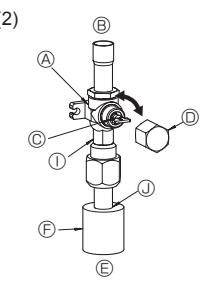
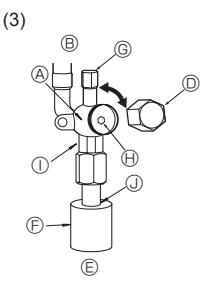

Fig. 4-7
Fig. 4-8
② Make sure that the stop valve is open completely and rotate the cap back to its original position.
(2) Gas side of SW100-200 (Fig. 4-7)
- ① Remove the cap, pull the handle toward you and rotate 1/4 turn in a counter-clockwise direction to open.
② Make sure that the stop valve is open completely, push in the handle and rotate the cap back to its original position.
(3) Liquid side of SW75-200 and Gas/Liquid side of SW40-75 (Fig. 4-8)
- ① Remove the cap and turn the valve rod counterclockwise as far as it will go with the use of a 4 mm hexagonal wrench. Stop turning when it hits the stopper.